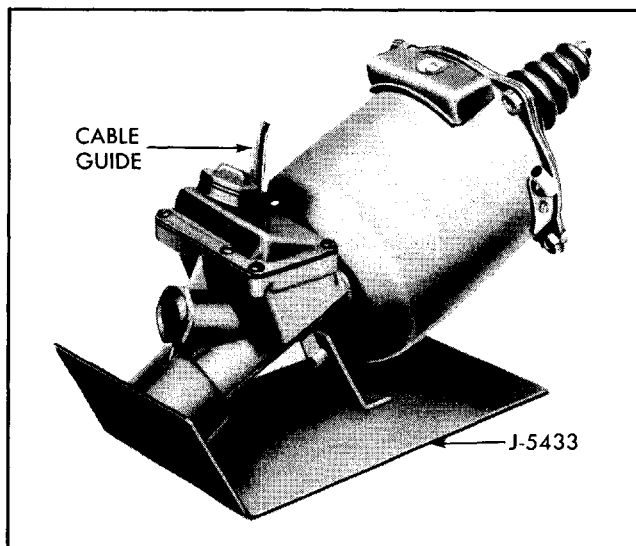

Fig. 5-17 Power Brake Unit in Holding Fixture
The Bendix power brake unit can be identified by the die-cast hydraulic cylinder and pressed steel filler cap (Fig. 5-17). The Moraine power brake unit can be identified by the cast iron master cylinder and cast iron filler cap (Fig. 5-39).
2. Mount unit in holding fixture J-5433 (Fig. 5-17). If holding fixture is not available, clamp hydraulic cylinder in vise.
3. Remove battery cable guide (Fig. 5-17).